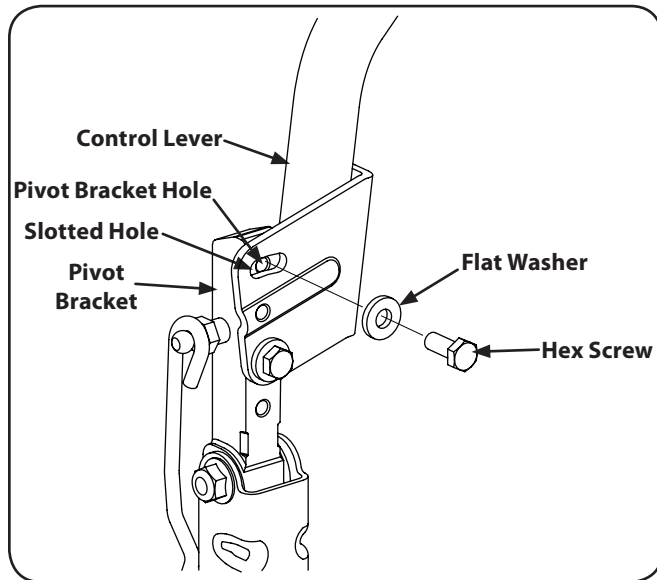

Figure 4-3
2. Lift and swing that control lever upward until the slotted hole in the lever bracket aligns with one of the holes in the pivot bracket. See Figure 4-3.
3. Slide the flat washer onto the hex screw. From the outside, insert the hex screw with washer through the control lever slot and the hole of the pivot bracket. See Figure 4-3.